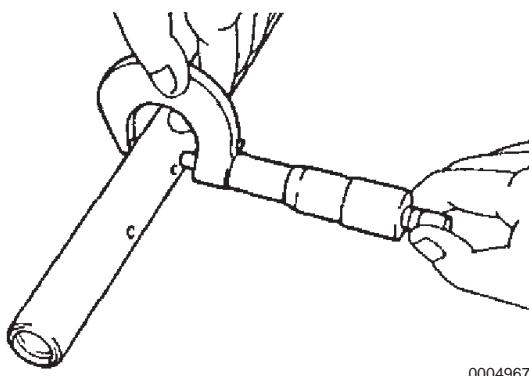

Figure 5-42
- Measure the rocker arm shaft diameter using a micrometer (**Figure 5-42**).